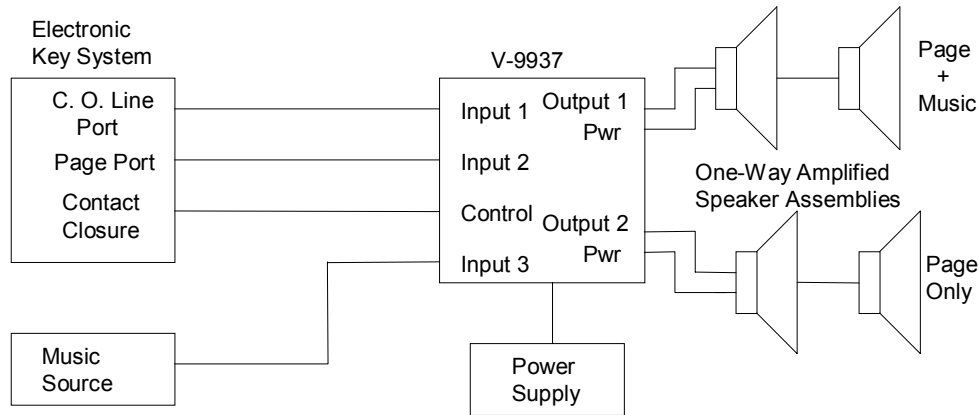

FIGURE 1 - SIMPLIFIED BLOCK DIAGRAM OF A TYPICAL INSTALLATION (Arrangement 1)
- Refer to Figure 1 for a simplified block diagram of a typical installation.